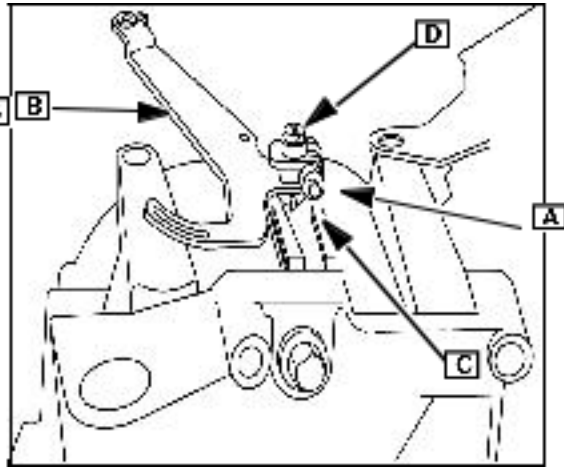

Fig. 22
Loosen governor lever nut (A) and remove governor lever (B), Fig. 22.